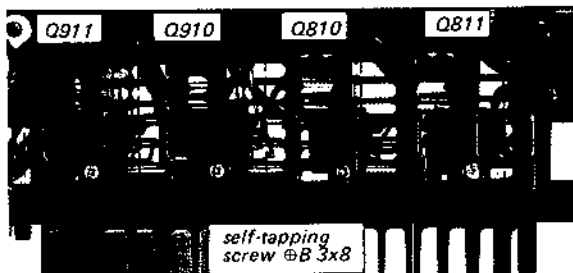

Fig. 2-14 Top heat sink bracket removal
2. Remove the four self-tapping screws ($\text{#B } 3 \times 8$) securing top heat sink bracket as shown in Fig. 2-14.